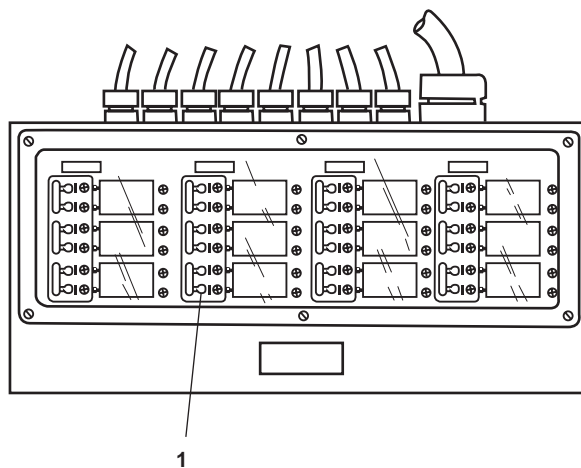

Figure 5. Machinery DC Control Distribution Panel
- d. In the engine room on the aft bulkhead outside of the EOS, at the machinery dc control distribution panel, set the BOW THRUSTER DRIVE ENG circuit breaker (figure 5, item 1) to the ON position.